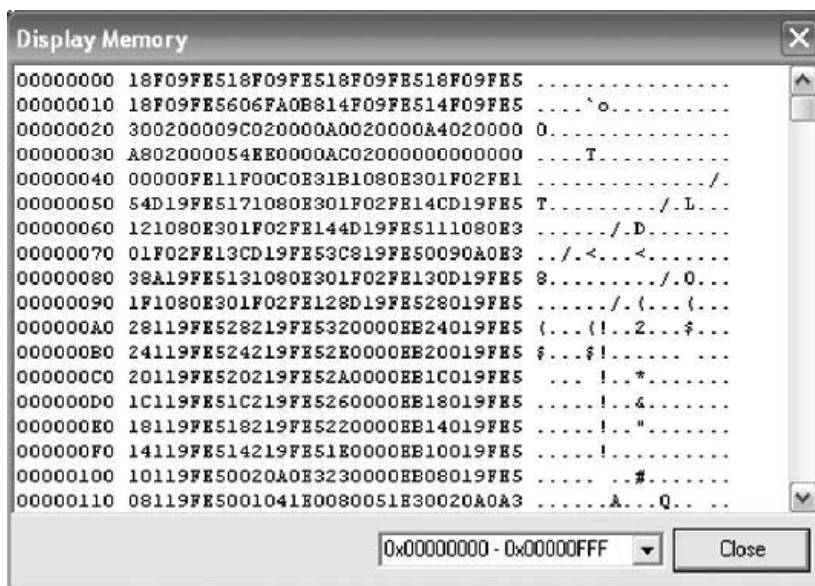

Figure 6 — A FlashMagic screen shot of the LPC2138 Memory Dump Display, after programming.
- You may wish to again view the program memory contents with the ISP menu “Display Memory” Option. Now the memory contents should show random hexadecimal characters corresponding to the NS3 program code as shown in Figure 6.